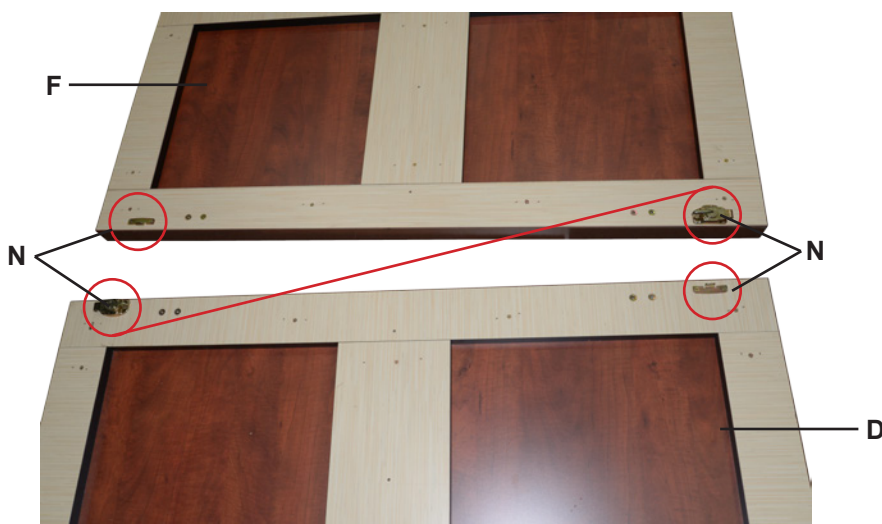
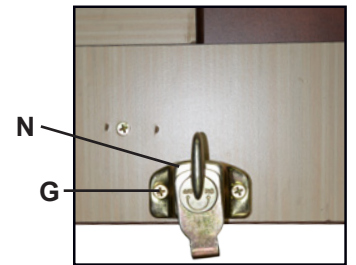

Figure 1
Figure 2
STEP 6: Attach **Sash Locks(N)** to pre-drilled holes in bottom side of **Center Tops(D)** and **End Tops(F)** using **Gold Screws(G)**. Alternating placement of **Sash Locks(N)** from left to right to ensure maximum strength when table is upright and locked (see figure 1). Please Note: **Sash Locks(N)** will have to be in the "ON" position to allow for attachment (see figure 2).